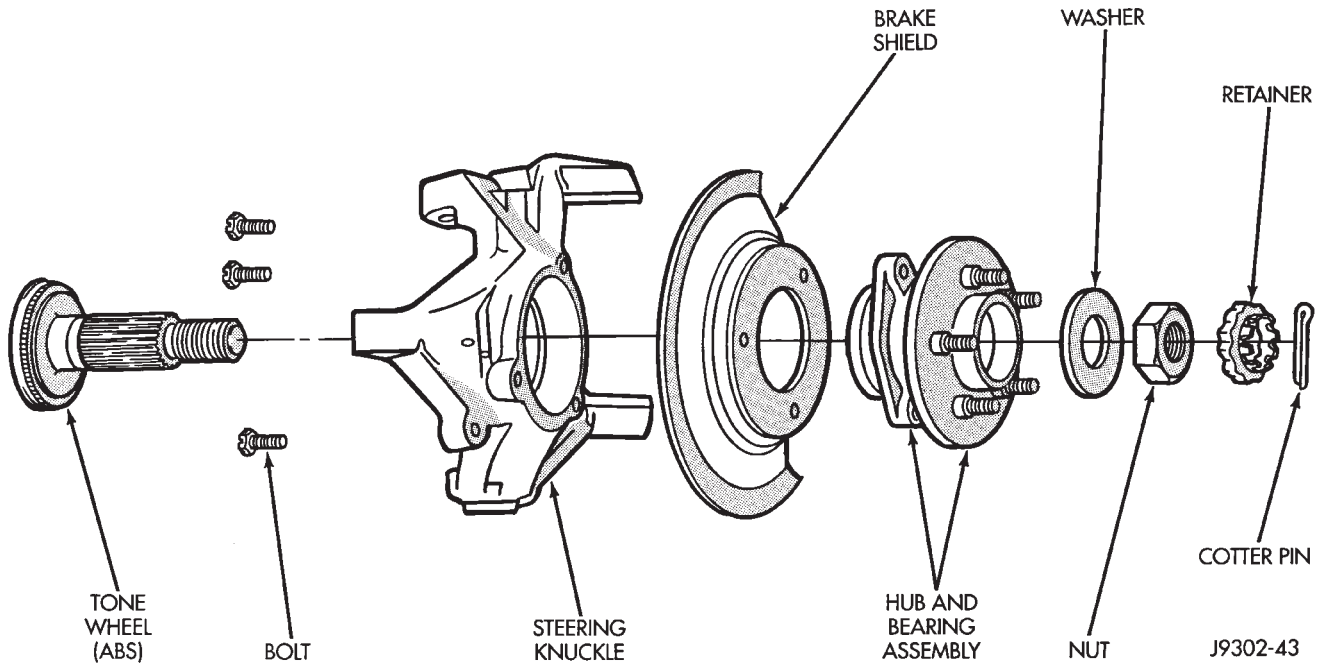

Fig. 10 Hub, Knuckle and Axle Shaft
(3) Remove the brake caliper and rotor. Refer to Group 5, Brakes, for proper procedures.
(4) Remove ABS wheel speed sensor, if necessary. Refer to Group 5, Brakes, for proper procedures.
(5) Remove the cotter pin, nut retainer, and axle hub nut (Fig. 10), if necessary.
(9) Remove the brake rotor shield from the hub bearing or knuckle (Fig. 10).
(1) Thoroughly clean the axle shaft (Fig. 10) and apply a thin film of Mopar® Wheel Bearing Grease, or equivalent, to the shaft splines, seal contact surface, and hub bore.
(2) Install the brake rotor shield to the knuckle.
(3) Install the hub bearing and axle shaft assembly, or axle shaft, into the housing and differential side gears. Avoid damaging the axle shaft oil seals in the axle housing.
(4) Install the hub bearing, if necessary.
(5) Install the hub to knuckle bolts and tighten to 102 N·m (75 ft. lbs.) torque.
- (6) Install the hub washer and nut, if necessary. Tighten the hub nut to 237 N·m (175 ft. lbs.) torque. Install the nut retainer and a new cotter pin (Fig. 10).
- (7) Install ABS wheel speed sensor, if necessary. Refer to Group 5, Brakes, for proper procedures.
- (8) Install the brake rotor and caliper. Refer to Group 5, Brakes, for proper procedures.
- (9) Install the wheel and tire assembly.
- (10) Remove support and lower the vehicle.